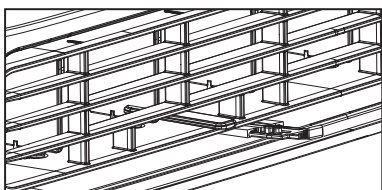

Figure 3 (VENT OPEN)
3. Exchange air from the room - Vent Open (see Fig. 3)